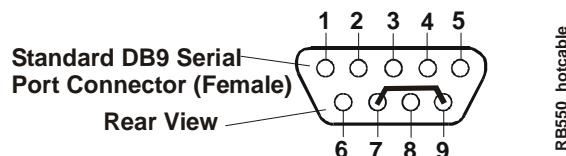

Figure 3-3. Hot Cable Jumper
To convert a standard serial cable to a Hot Cable, specific pins must be shorted together at the Serial port connector or at the DB9 connector. For example, short the RTS (7) and RI (9) on the respective DB9 port connector as shown in Figure 3-3.